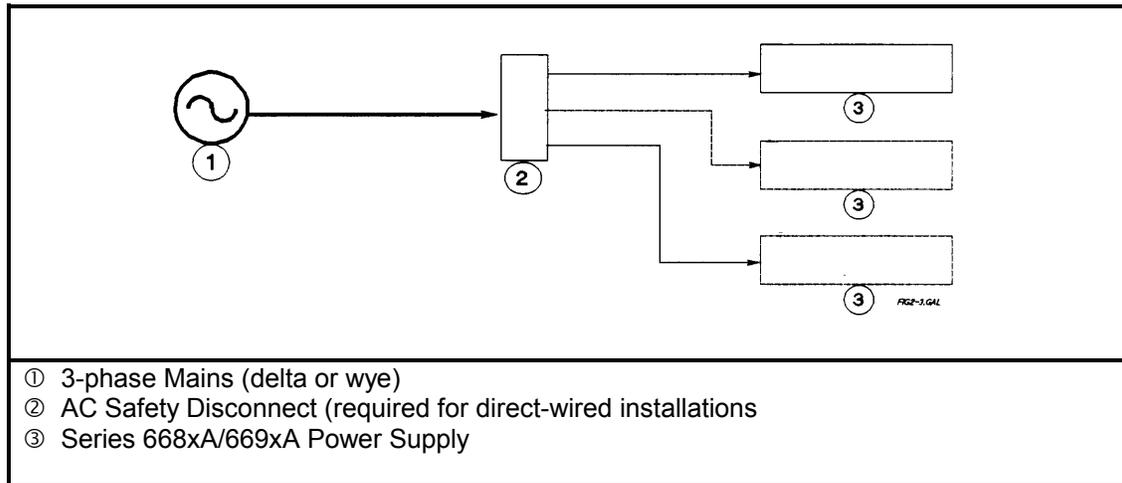

Figure 2-4. Series 668xA/669xA Overall Wiring Diagram.
The Series 668xA power supply requires a 3-phase power source that provides 7350 VA (6000 W) maximum. The supply has a delta input (no neutral connection) and will accept power from either delta (triangle) or wye (star) sources. Two voltage ranges are available (see "AC Input Ratings" in Table 1-4a). *In order to maintain phase current balancing, the power source should be a dedicated line with only Agilent Technologies Series 668xA/669xA supplies drawing current from it.* A disconnect box located near the power supply (see Figure 2-4) is recommended for all installations and *is mandatory for direct-wired installations.*
The Series 669xA power supply requires a 3-phase power source that provides 9000 VA (7950 W) maximum. The supply has a delta input (no neutral connection) and will accept power from either delta (triangle) or wye (star) sources. Two voltage ranges are available (see "AC Input Ratings" in Table 1-4a). *In order to maintain phase current balancing, the power source should be a dedicated line with only Agilent Technologies Series 668xA/669xA supplies drawing current from it.* A disconnect box located near the power supply (see Figure 2-4) is recommended for all power cords with plugs and is mandatory for hard-wired power installations.
- c. **Series 668xA** - Unscrew the fuse caps from the rear panel (2, Figure 2-4). Verify that the fuse is as specified on the label. Replace the fuse.